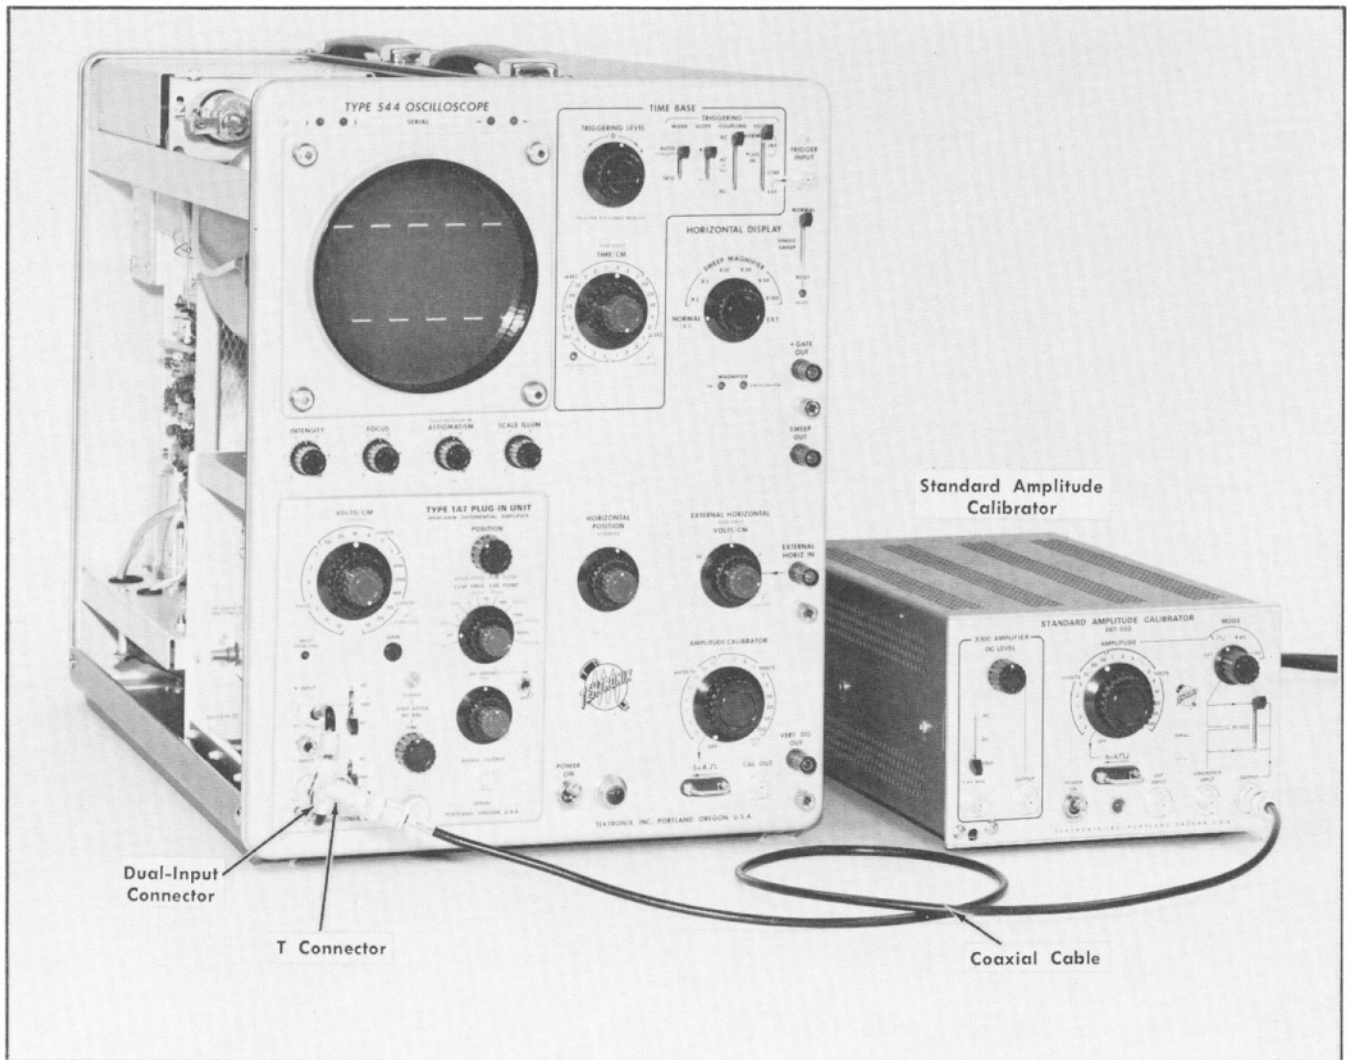

Fig. 6-31. Setup at completion of step 20b.
b. Apply a 50-mV peak-to-peak square-wave signal from the standard amplitude calibrator to the coaxial cable. (The signal should now be applied through the coaxial cable, T connector and dual-input connector to the Type 1A7.) Fig. 6-31 shows the setup.